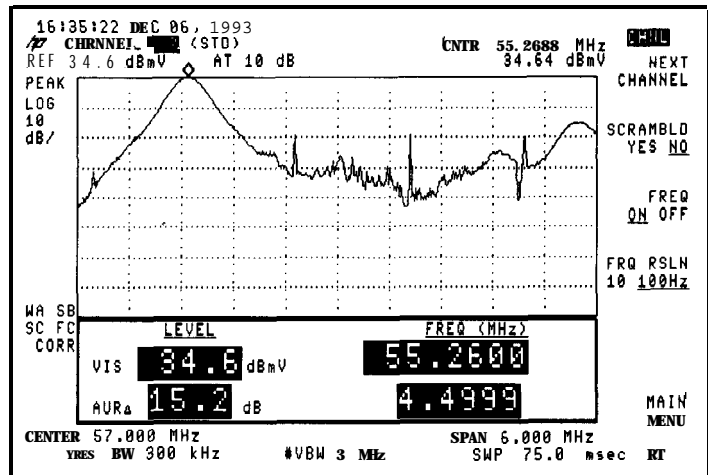

Figure 2-7. Carrier Frequency Measurement (100 Hz Resolution)
2. Press FREQ ON OFF to underline ON. The visual carrier frequency and visual-to-aural carrier frequency difference appear on the screen. See Figure 2-7.